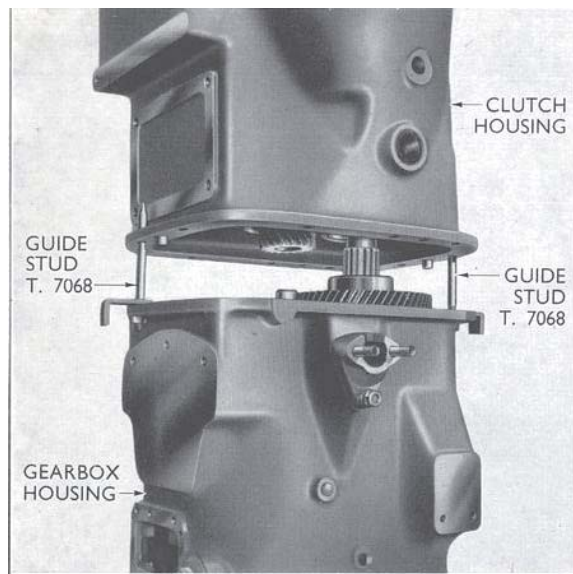

Fig. 26
**11a. Using guide studs T.7068, join the clutch housing to the gearbox (see Fig. 26).**